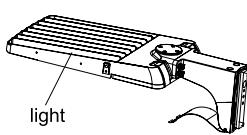

Figure 15
2. Pull the power supply wires from the pole and place the fixture onto the mounting bracket. (see Fig. 15)